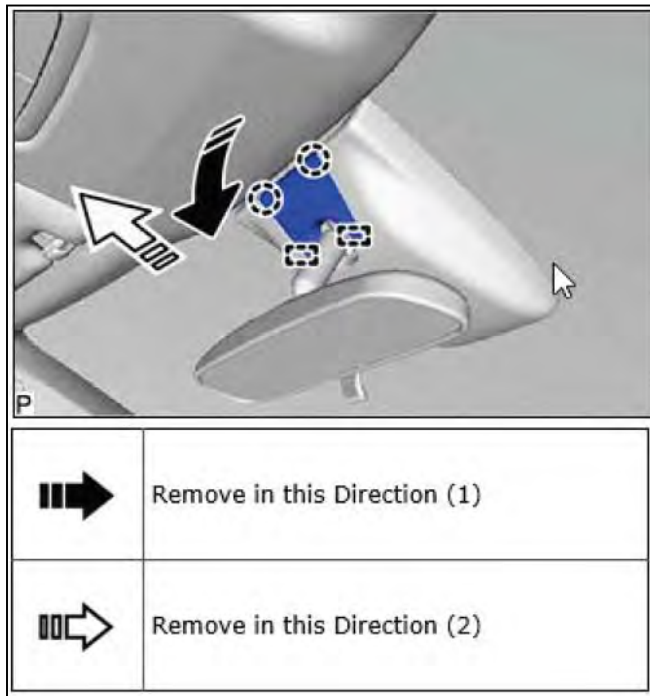

Figure 8a
- a. Pull the No. 2 forward recognition cover in the direction indicated by the arrow (1) in the illustration to disengage the 2 claws. Pull the No. 2 forward recognition cover in the direction indicated by the arrow (2) in the illustration to disengage the 2 guides and remove the No. 2 forward recognition cover. See figure 8a.